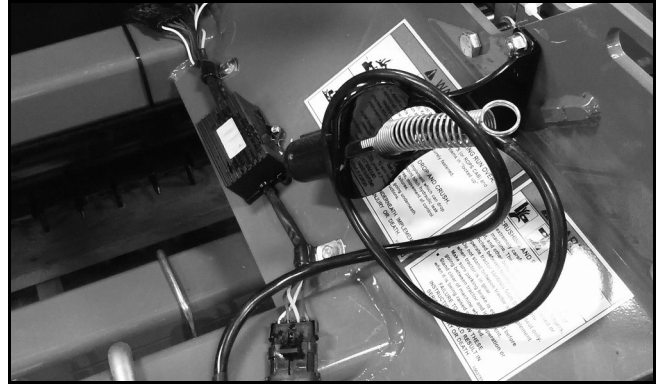

Figure 39. Seven Pin Plug Holder
7. Install enhancer module on right-hand side mast plate with #10 self-tapping screws. Route wires through 1/2" cushioned clamps and attach clamps in front of and behind enhancer module with 1/4" x 1" hex head cap screws and 1/4" whiz nuts. (See Figure 39).